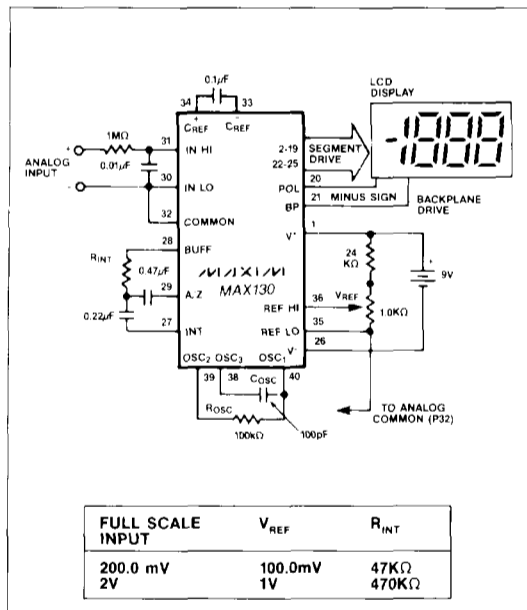
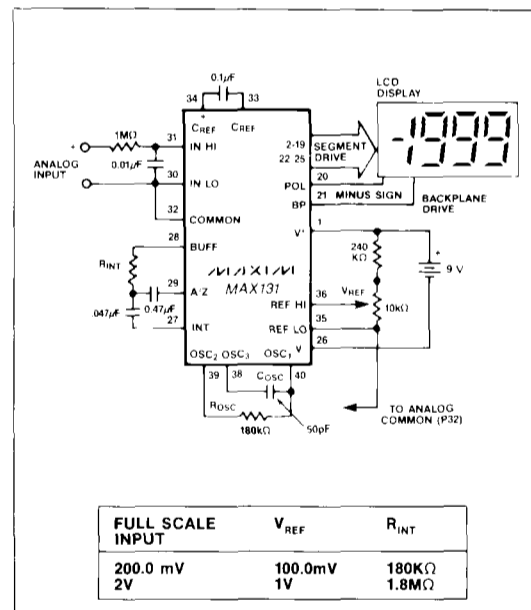

Figure 1. Maxim MAX130 Typical Operating Circuit, 3 Conversions per Second
Figure 2. Maxim MAX131 Typical Operating Circuit, 3 Conversions per Second
(V+ = 9V, TA = 25°C, fCLOCK = 48kHz; test circuit - Figure 1; unless noted)
(V+ = 9V, TA = 25°C, fCLOCK = 48kHz; test circuit - Figure 2; unless noted)
**Note 3:** Test condition is VIN applied between pin IN-HI and IN-LO through a 1MΩ series resistor as shown in Figures 1 and 2.
**Note 4:** 1MΩ resistor is removed in Figures 1 and 2.
Figures 1 and 2 show the basic MAX130 and MAX131 applications circuits. Note that the circuits for the MAX130 and the MAX131 use different values for the integration and oscillator components. The MAX130 can operate using the MAX131 component values, but the MAX131 will not operate using the MAX130 component values. The lower supply current device, the MAX131, must always use the higher value integrator resistor as shown in component value table in Figure 2. With a typical operating current of only 65µA, the MAX131 will operate for about 8500 hours when powered by a typical 550mAh alkaline 9V battery. The MAX130 will operate for 2200 hours with a 550mAh battery.
The MAX130/131 can easily be used with ±5V supplies. Connect  $V^+$  to +5V,  $V^-$  to -5V. If the voltages to be measured are referred to ground, then connect In Lo to ground. In most cases, Ref Hi and Ref Lo should be connected to a resistive divider string between  $V^+$  and Common, as shown in the standard application circuits of Figures 1 and 2. If Common is not used to generate the reference it can either be left floating or can be connected to ground. If the MAX130/131 oscillator is driven by 5V logic, or if the MAX130/131 LCD outputs drive 5V logic, then connect the Test pin to ground. If the MAX130/131 open circuit Test voltage is above ground, then connecting Test pin to ground will set the internal digital ground to approximately ground. If, however, the open circuit Test voltage is negative, additional  $V^+$  supply current will be drawn, and the LCD segments will continue to swing